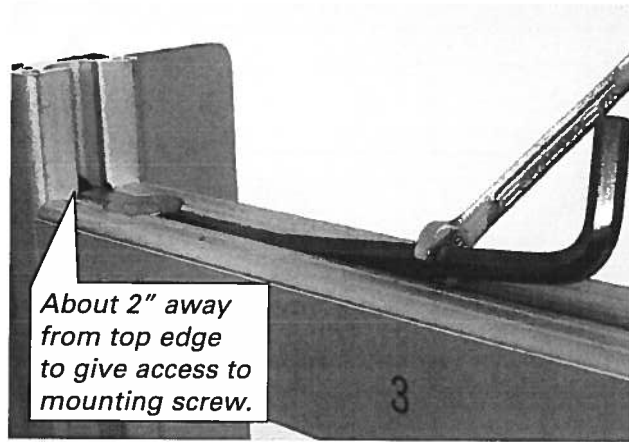

Figure 5 – Tightening Bolt with Assist from Wrench
When cap bolts are finger tight, check track alignment, and then tighten each bolt using either a 1/4" open-end wrench or an adjustable wrench to finish tightening (Fig. 5). (The wrench is needed to increase the torque on the cap bolts more than the hand can provide on the short leg of the hex drive.)
1. Frequently (weekly, at the minimum) check both overhead extension cap bolts and all four wall mounting screws for tightness. Use wrench with ball-end hex driver as shown in Figure 5. Check wall mounting screw tightness with No. 2 Phillips head screwdriver.